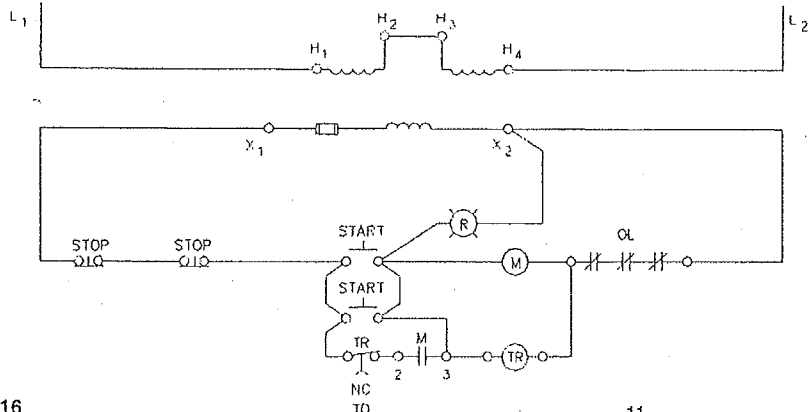

Fig. 16
- A. Power unit motor is normally controlled by "Start-Stop" starting switch located near motor in full view of lift. See wiring schematic for single motor unit, Fig. 16. **Note:** Motor rotation is counter-clockwise.